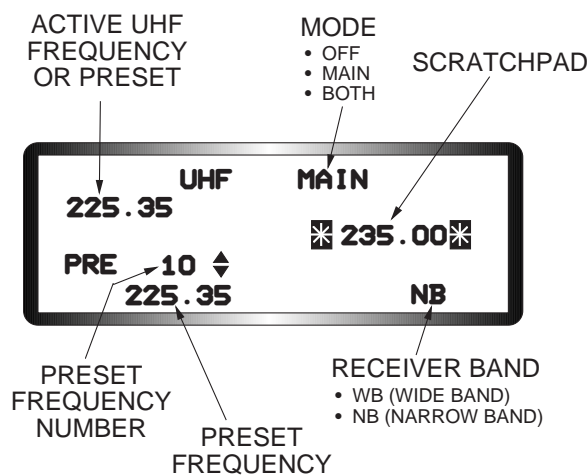

Figure 1-45 COM 1 Control Page
**Normal Radio Control:** Normal UHF radio control is provided by the UFC. After the engine is started and the aircraft is on internal power, the UFC switch on the Avionics Power Panel is switched to ON. When initially powered-up, the DED page will display “BACKUP” in large letters to indicate that the Communications and IFF systems are in the BACKUP control mode. Moving the IFF Panel C&I switch from the BACKUP to UFC allows normal UHF control of communications and IFF systems and causes the CNI page to be displayed on the DED. Depressing the COM 1 pushbutton on the ICP accesses the UHF COM 1 Control page on the DED (Figure 1-45). The pilot selects the data he wants to enter on the control page by placing the asterisks in the desired area with the dobber switch. Data entry areas include the scratchpad, receiver band, preset channel number, and preset channel frequency.